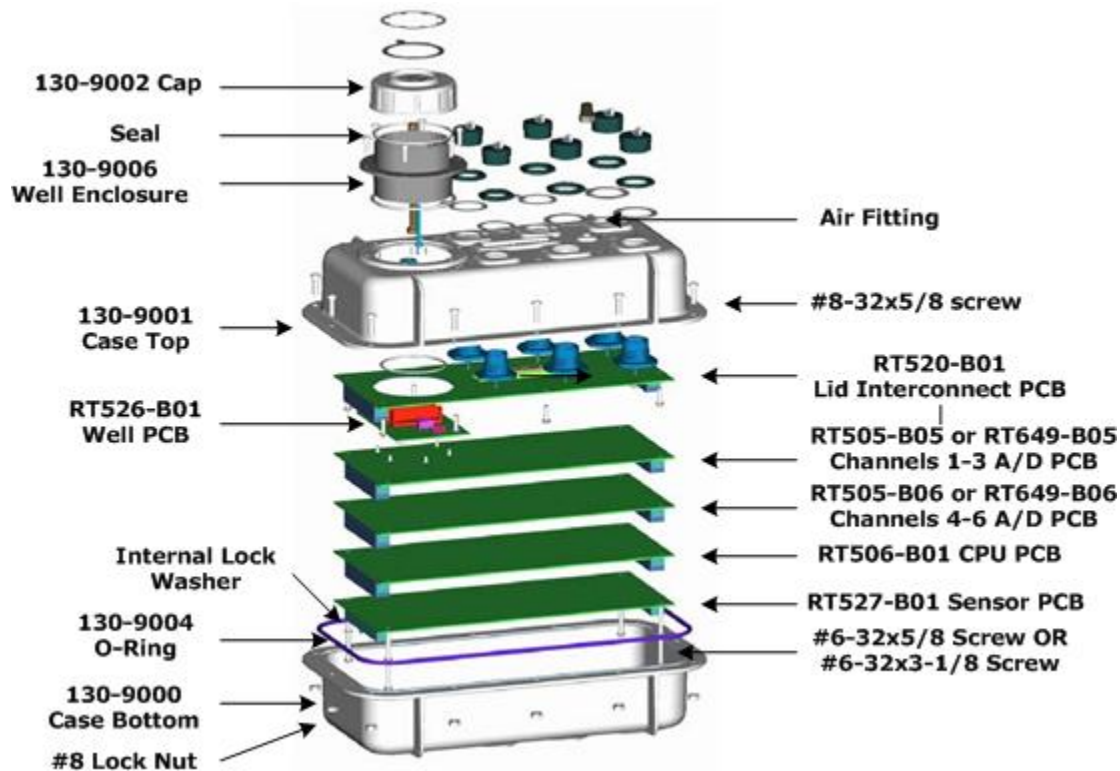

Figure 4-5 130-01 Boards Stack
Refer to Figure 4.5 on page 71
To disassemble a 130-01 reference Figure 4.5 and follow these steps:
Assemble the 130 DAS (Figure 4.5) as follows:
1. Gently re-stack the boards in the order shown in Figure 4.5.